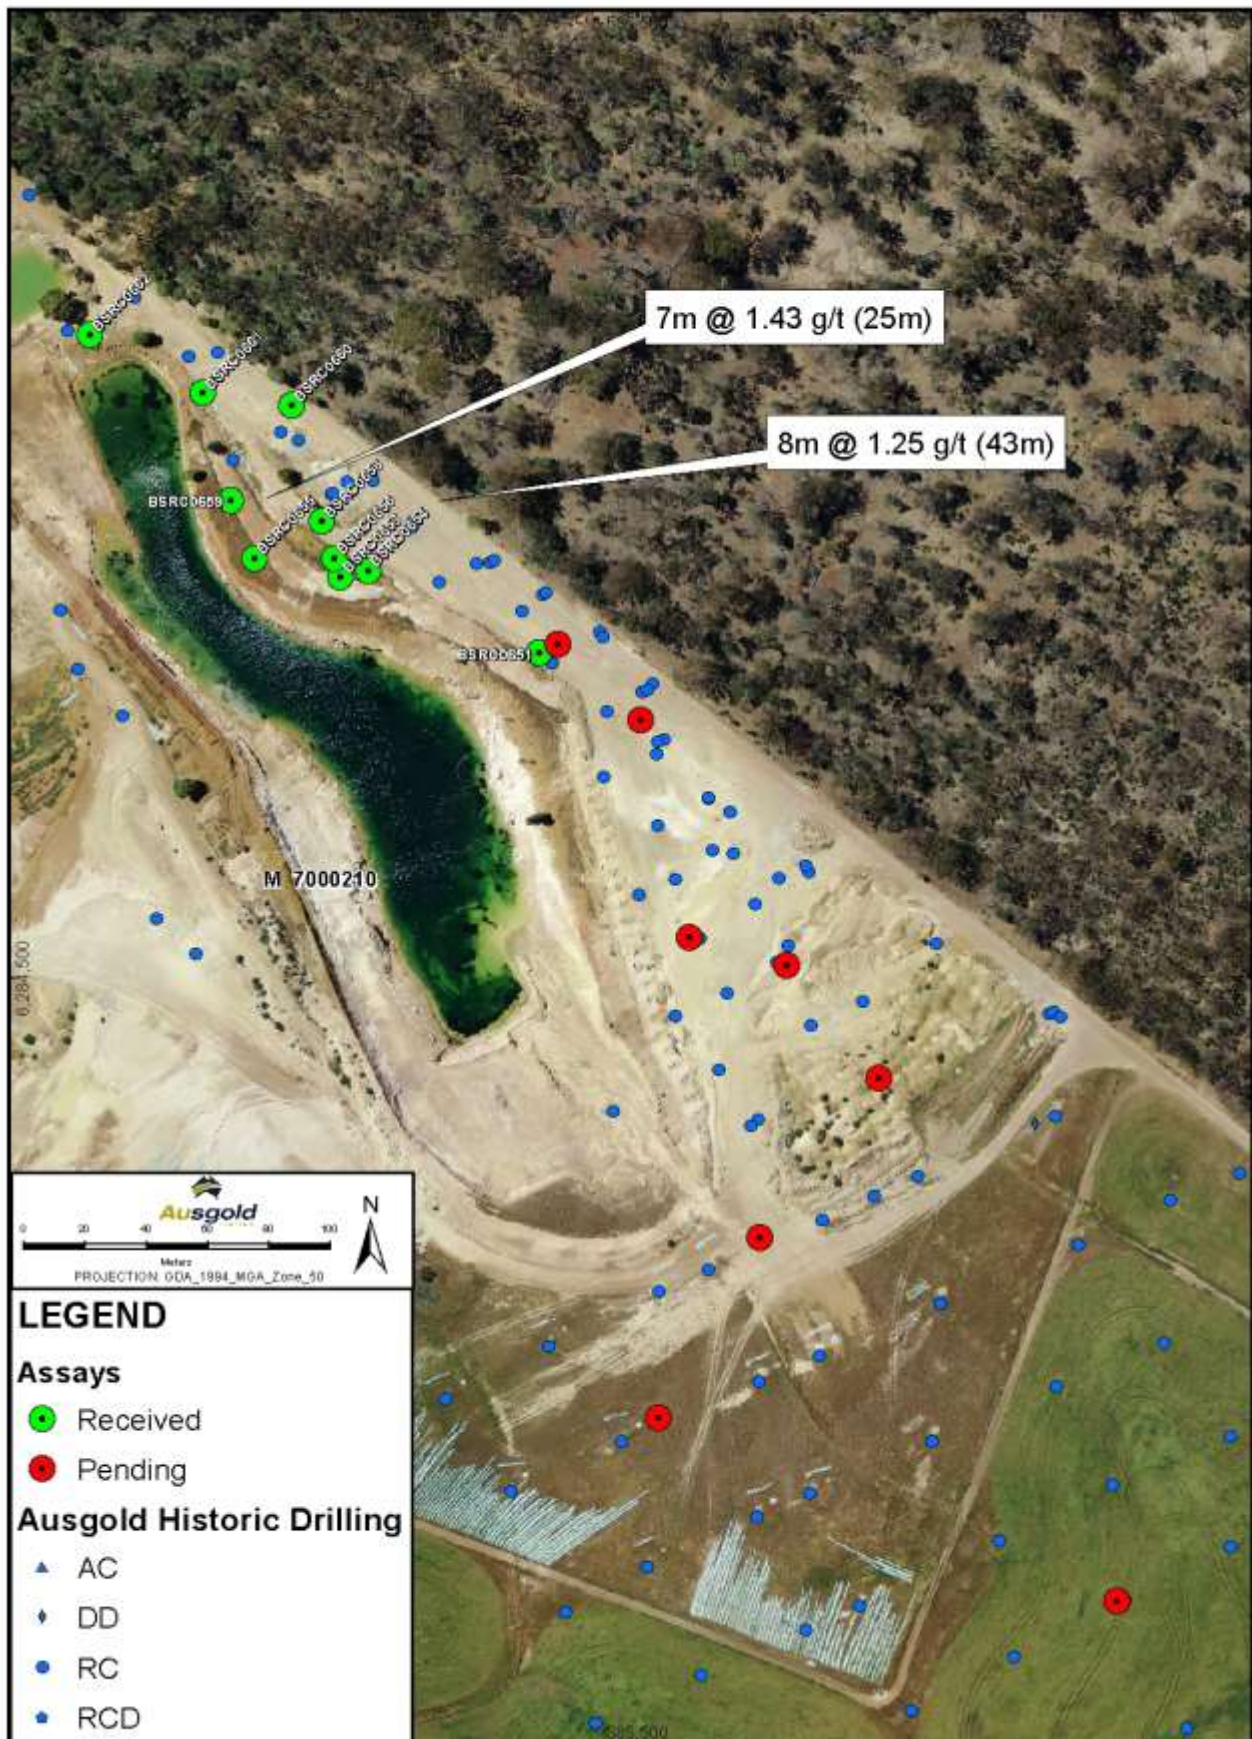

FIGURE 2. Aerial photograph at Dingo showing location of completed RC drilling and results pending.
- At Dingo drilling confirms substantial shallow mineralisation down dip of the historic Dingo open cut (**Figure 2**). Intersections include: